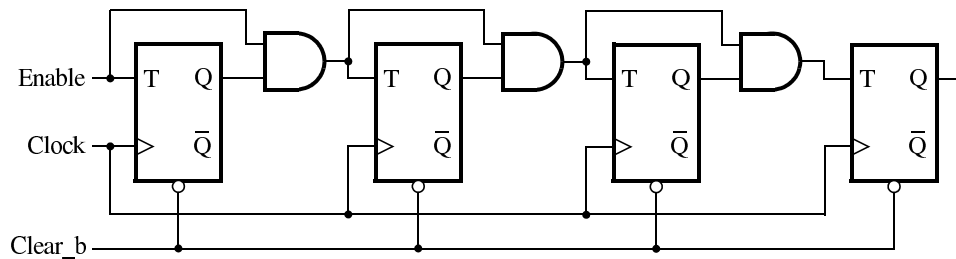

Figure 1: A 4-bit counter.
Consider the circuit in Figure 1. It is a 4-bit synchronous counter (text Section 5.9.2) that uses four T-type flip-flops (text Section 5.5). The counter increments its value on each positive edge of the clock if the *Enable* signal is asserted. The counter is reset to 0 by setting the *Clear_b* signal low – it is an **active-low asynchronous clear**. You are to implement an 8-bit counter of this type.
1. Draw the schematic for an 8-bit counter using the same structure as shown in Figure 1.
7. Use the Quartus RTL Viewer to see how the Quartus software synthesized your circuit. What are the differences in comparison with Figure 1?